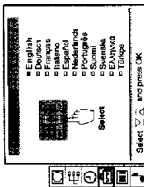

Fig. 1
- 3 The **LANGUAGE** menu appears. (See Fig. 1)